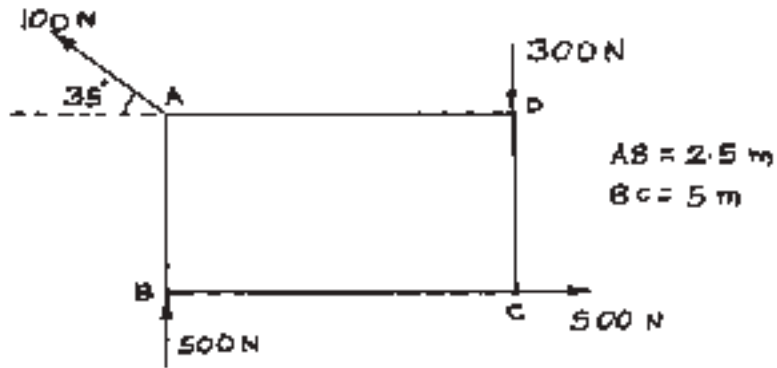

Fig. No. 6
- c) Calculate the magnitude and direction of a resultant force for a force system as shown in the Figure No. 6. Locate it with respect to point A.